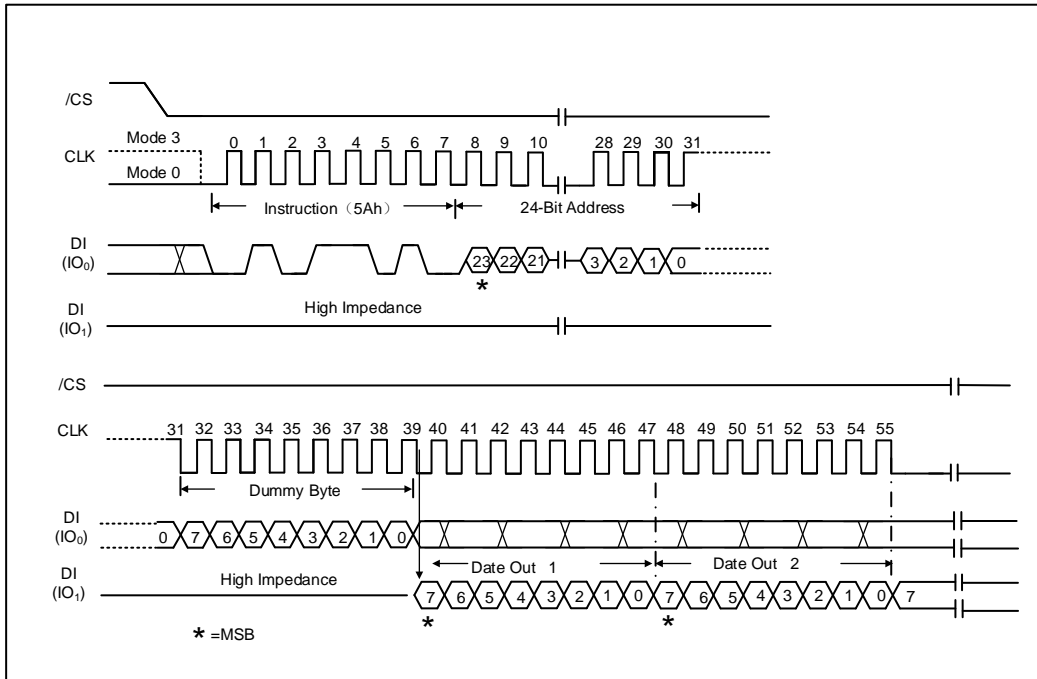

Figure 34. Read SFDP Register Instruction Sequence Diagram (Only SPI Mode)
The Read SFDP instruction is initiated by driving the /CS pin low and shifting the instruction code “5Ah” followed by a 24-bit address (A23-A0)(1) into the DI pin. Eight “dummy” clocks are also required before the SFDP register contents are shifted out on the falling edge of the 40th CLK with most significant bit (MSB) first as shown in Figure 34. The byte address is automatically incremented to the next byte address after each byte of data is shifted out. The last byte address of the register is FFh (the data will always be FFh when read after the last address), For SFDP register values and descriptions, please refer to please refer to the following SFDP Definition Table.